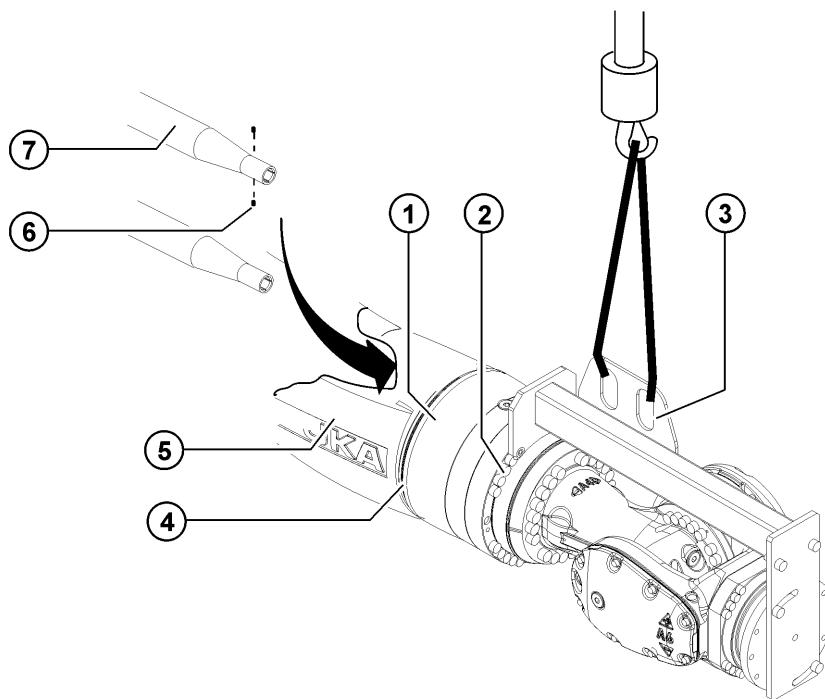

Fig. 11-35: Removing the in-line wrist
1. Fasten the lifting device to the in-line wrist and the crane. (>>> Fig. 11-35).